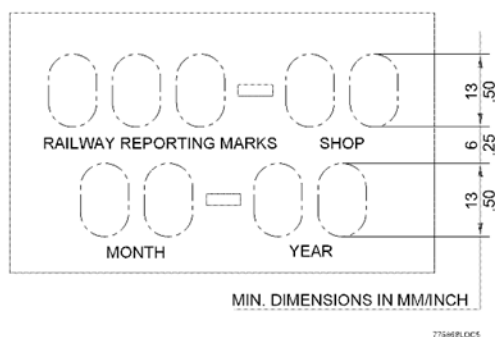

Figure 10-1 Examples of Valve Portion Stenciling with Required Information
3. A suitable surface of the Service portion must be stenciled with letters at least ½" high in accordance with Figure 10-1.